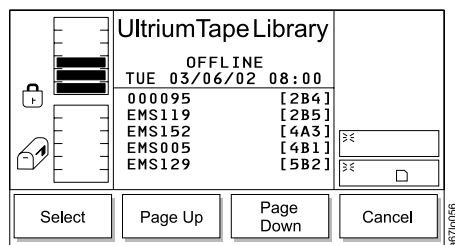

Figure 183. Export List Dialog
4. Press the button below the **OK** softkey. The Export List Dialog displays a list of tape cartridges that are present in the library (see Figure 183). The cartridges are listed by their volume serial numbers (VOLSERs) and physical addresses.